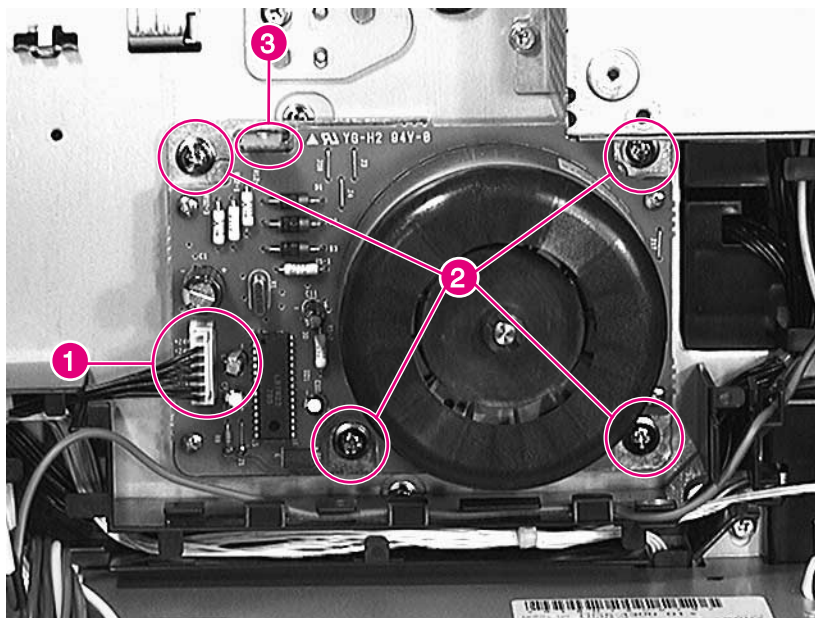

Figure 6-41 Main Motor
- Main Motor (see figure 6-41 on page 313)
- 3 Unplug the connector (figure 6-41, callout 1).
- 4 Remove 4 screws (figure 6-41, callout 2).
Align the Main Motor to the chassis with the locator tab (figure 6-41, callout 3) and the machined ring around the output shaft.